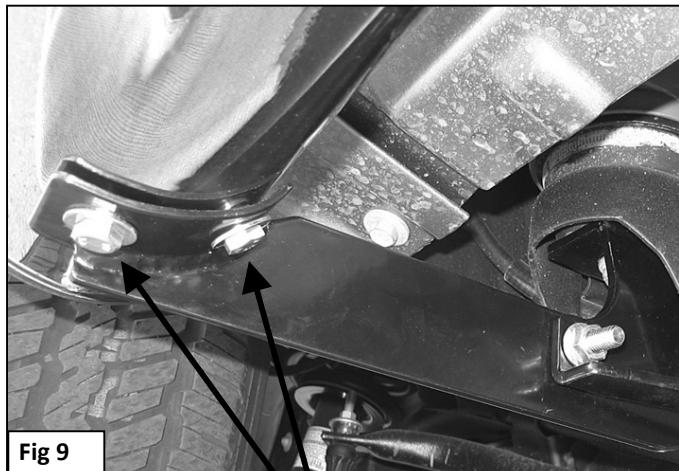

Fig 9
7. Carefully position the Driver Sidebar onto the Mounting Brackets. Attach the Sidebar to the Mounting Brackets with (6) 8mm x 25mm Hex Bolts, (6) 8mm Lock Washers and (6) 8mm Flat Washers, (**Figure 9**). Do not tighten hardware at this time.